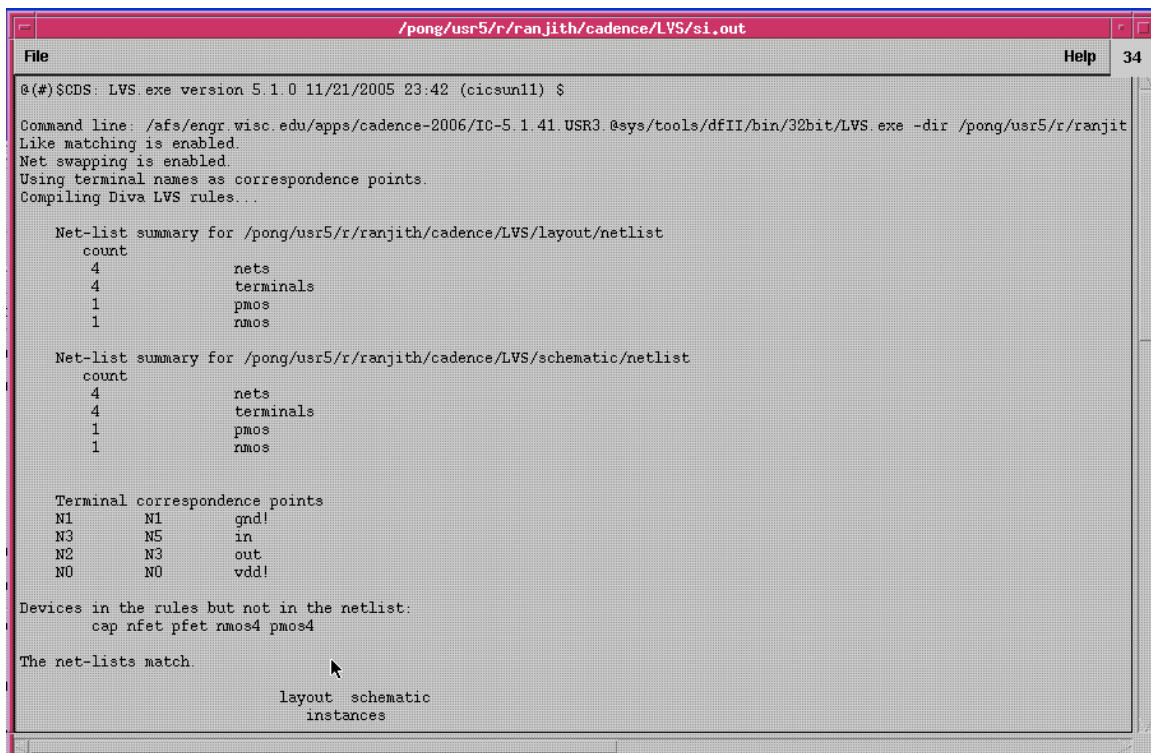

Fig. 24. LVS Output
- Press OK and then press the “OUTPUT” button. A window will pop up as shown in Fig. 24.
- A **Choosing Simulator/Directory/Host** window appears like Fig. 24. Make sure the simulator is set to **spectre**.